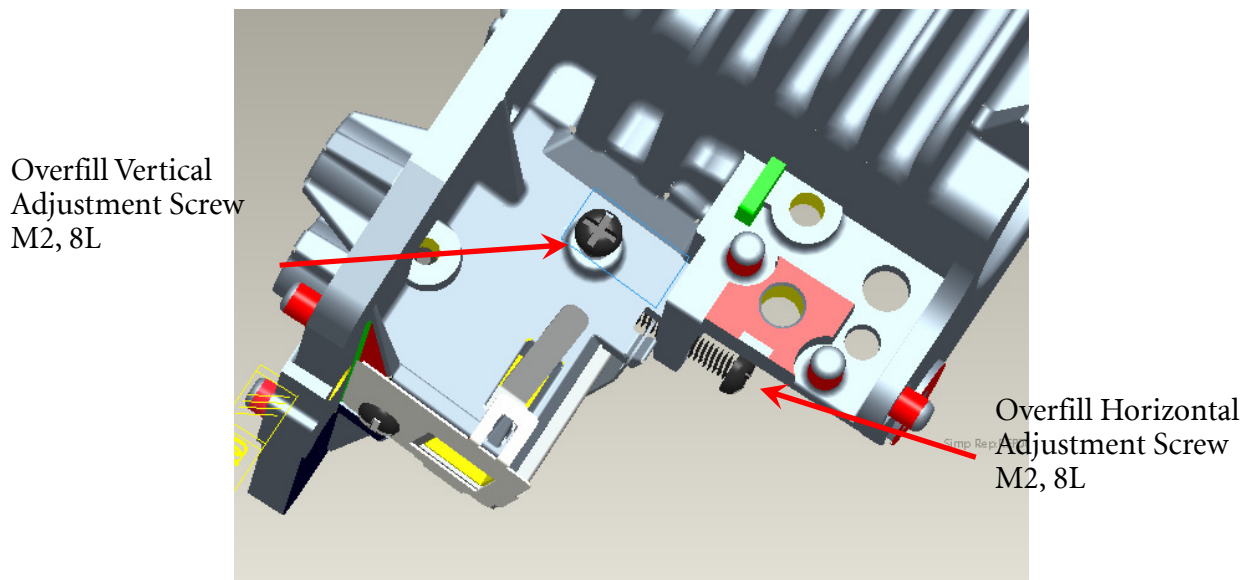

Fig. 1-1
- vii. Assembly two Overfill adjustment screws (M2, 8L) to HSG DMD (Fig. 1-1).
** Adjustment criteria refer to below item 1.2